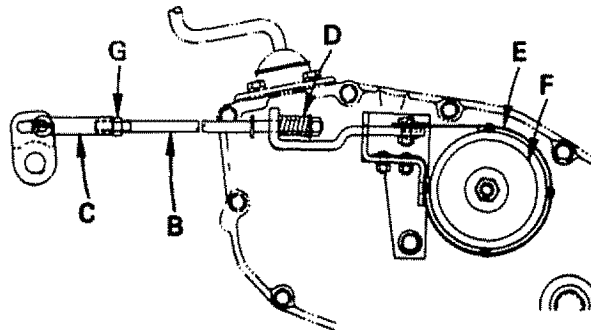

FIGURE 52
- Loosen Jam Nut (G) on Brake Rod (B) at Clevis (C) (Fig. 52). If you find it difficult to loosen Jam Nut (G), remove Cover Plate in L.H. Frame Rail.
- Rotate Brake Rod (B) counterclockwise, (⤴) turning Brake Rod out of Clevis (C) four to six turns.
- Shut engine off. Rotate Brake Rod (B) clockwise by hand, turning Brake Rod into Clevis (C), until tight. Tighten Jam Nut (G) on Brake Rod (B) at Clevis (C) (Fig. 52).
- Reinstall Lift Cover Plate and four (4) Mounting Screws. If Cover Plate was removed in step b it should be replaced.